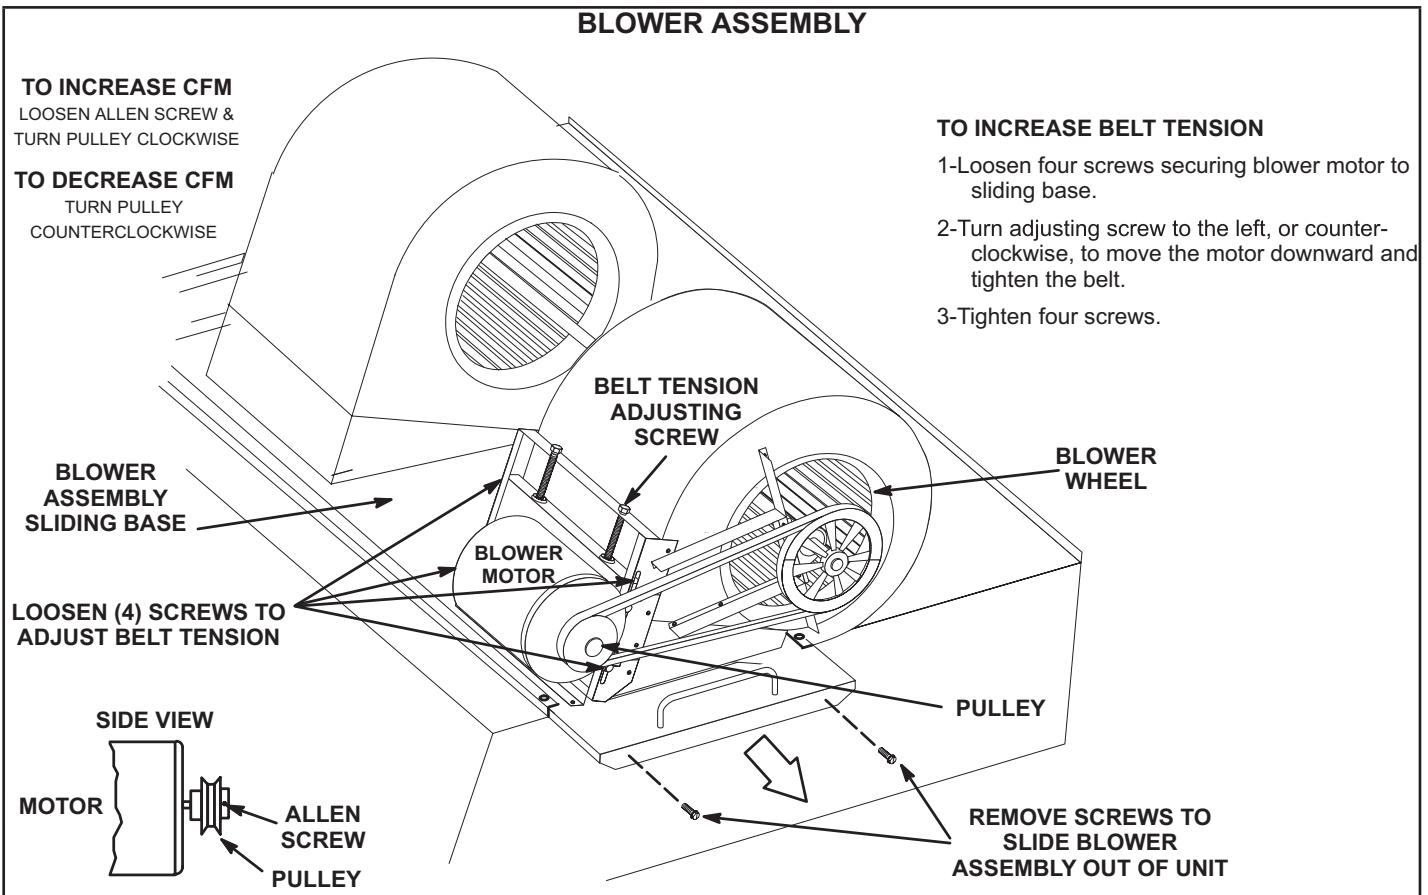

FIGURE 21
- 2 - Remove screws on either side of blower assembly sliding base. See FIGURE 21.
- 4 - The blower RPM can be adjusted at the motor pulley. Loosen Allen screw and turn adjustable pulley clockwise to increase CFM. Turn counterclockwise to decrease CFM. See FIGURE 21. Do not exceed minimum and maximum number of pulley turns as shown in TABLE 3.
- 1 - Loosen four screws securing blower motor to sliding base. See FIGURE 21.